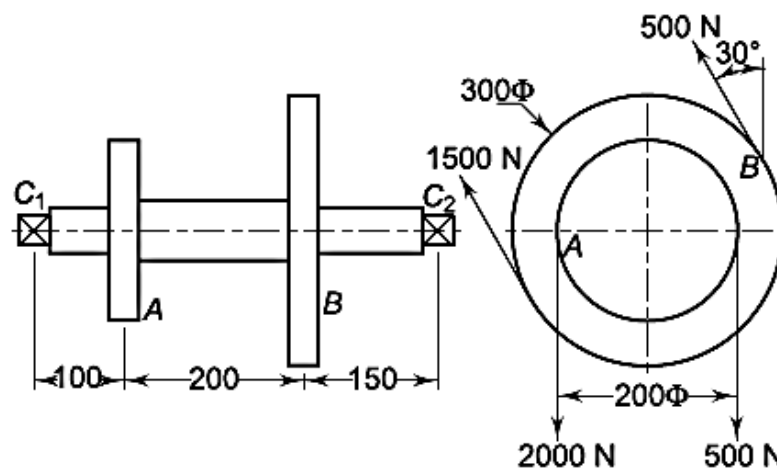

Figure 7.2
7. A transmission shaft, supporting two pulleys A and B and mounted between two bearings  $C_1$  and  $C_2$  is shown in Fig.7.2 Power is transmitted from the pulley A to B. The shaft is made of plain carbon steel 45C8 ( $S_{ut} = 600 \text{ N/mm}^2$  &  $S_{yt} = 380 \text{ N/mm}^2$ ). The pulleys are keyed to the shaft. Determine the shaft diameter using the ASME code if,  $k_b = 1.5$  and  $k_t = 1.0$ . Also, determine the shaft diameter on the basis of torsional rigidity, if the permissible angle of twist between the two pulleys is  $0.5^\circ$  and the modulus of rigidity is  $79300 \text{ N/mm}^2$ .